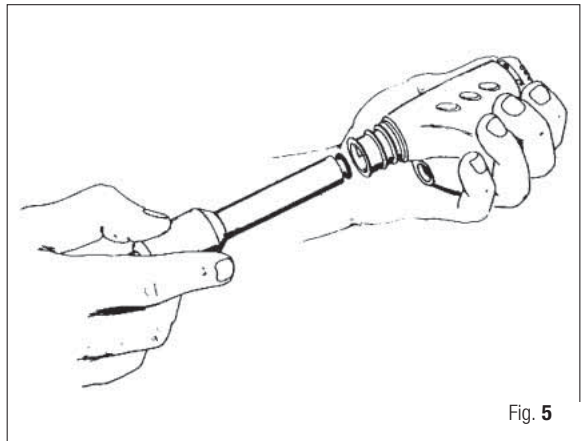

Fig. 5
- VI. Position the gasket (34) onto the Spring Bearing (35) as shown.
- VII. Fix Spring Bearing + Gasket into the RE Valve Body. Slide the corrugated hose (60) onto the RE housing (32) and secure with clamps.
9. If the male QD cap (27) or LP hose clip (62) were removed from the corrugated hose (60) or if the corrugated hose was replaced, install the male QD cap and LP hose clip on the corrugated hose.
10. Thread the actuating cable through the corrugated hose (60).
11. Slide the corrugated hose (60) onto the RE housing (F) and secure with clamp (59).
12. Thread the actuating cable (66) through the anchoring bushing (47) and tie a knot in the actuating cable in a location that will allow the base of the anchoring bushing to just protrude from the corrugated hose.
13. Place o-ring (51) into the o-ring groove of the deflate button (52).
14. Insert the deflate button (52) with o-ring (51) into the inflator body (46).
15. Place O-ring (50) on bushing (49).
16. With special tool (P/N 106190 Fig. 5) or needle nose pliers, insert bushing (49) with O-ring (50), facing the deflate button, into the inflator body until the deflate button retaining tabs engage the bushing (Fig. 8-9).
17. Place the spring (48) on the anchoring bushing (47) and insert the anchoring bushing with spring into the inflator body until the locking tabs engage the inflator body. Depress the deflate button and release. The deflate button should return to its original position. If it does not return to its original position repeat steps 12-16 making sure all parts are in the correct location.